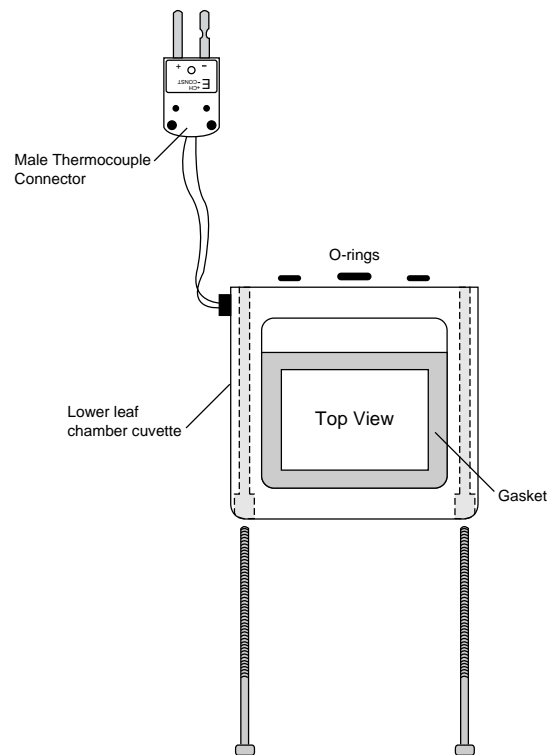
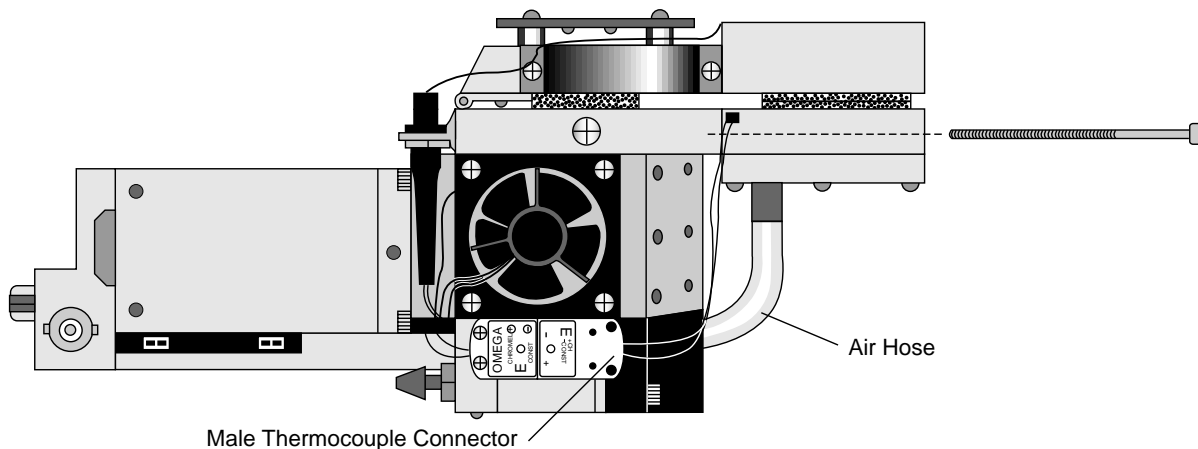

Figure 1. Install using the two screws from the lower leaf chamber cuvette.
Figure 2. Attach the air hose and thermocouple connector.
3. Install the 6400-08 with the two long screws from Step 2 (Figure 1). Make sure that the air passage O-rings are in place. Attach the air temperature thermocouple connector as shown in Figure 2.